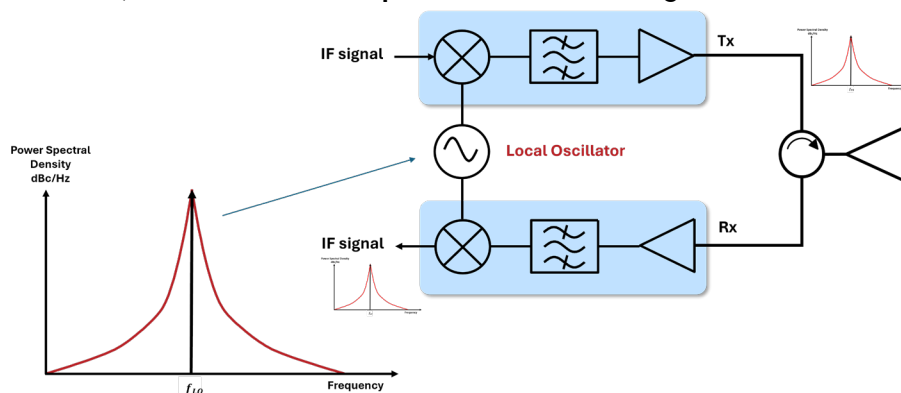

Figure 1: A simplified block diagram of a radar system with LO phase noise contributions.
Figure 1 shows a simplified radar system block diagram. In these systems, the local oscillator (LO) and amplifiers can be a significant source of phase noise. The LO provides an intermediate frequency (IF) signal, which could be modulated for up-conversion to the final transmitted frequency. This same LO also enables the received signal to be down-converted to an IF for digitization and further processing. Ideally, the LO is a discrete continuous wave (CW) tone at a single frequency. However, in practice, the LO signal contains imperfections, including phase noise, shown as the red spectral elements in Figure 1.